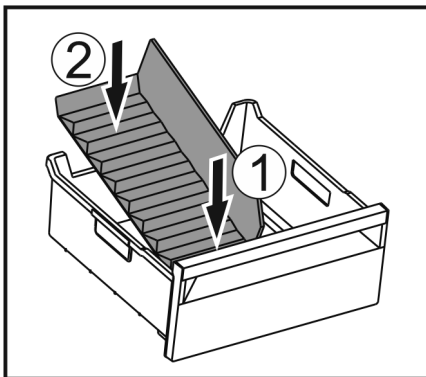

Fig. 160
- ▶ Insert the front part of the ice compartment divider. Fig. 160 (1)
- ▶ Lower the rear part of the ice compartment divider to the drawer bottom. Fig. 160 (2)